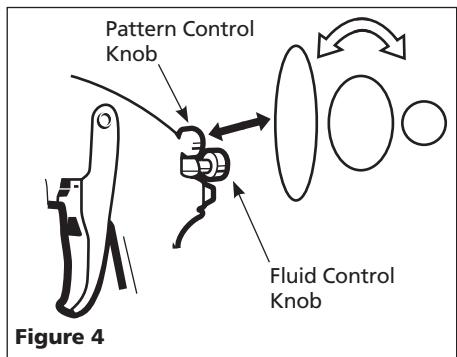

Figure 4
- Set pattern size to desired shape. For full pattern, open pattern control knob by turning counterclockwise. For a round pattern, turn pattern control knob clockwise (See Figure 4).